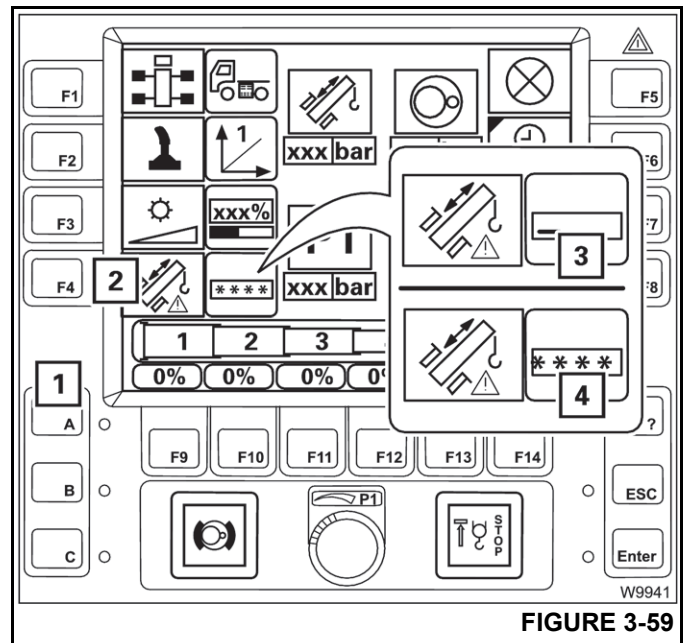

FIGURE 3-59
1. Press the F4 button (2) (Figure 3-59) once, the symbol (3) appears.